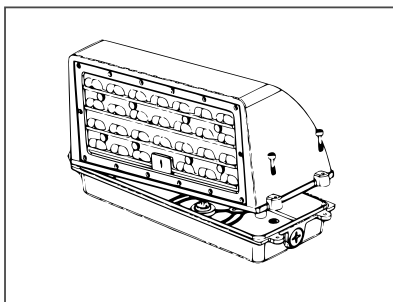

Figure 1
1. Unscrew the screw to remove the lamp body (Figure 1)